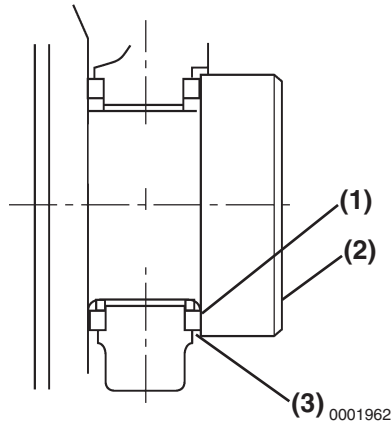

Figure 6-56
- **Method B:** Use a feeler gauge to measure the clearance (**Figure 6-56, (3)**) between the thrust bearing (**Figure 6-56, (1)**) and crankshaft (**Figure 6-56, (2)**). Record the measurement. See *Thrust Bearing on page 6-9 for the service limit.*